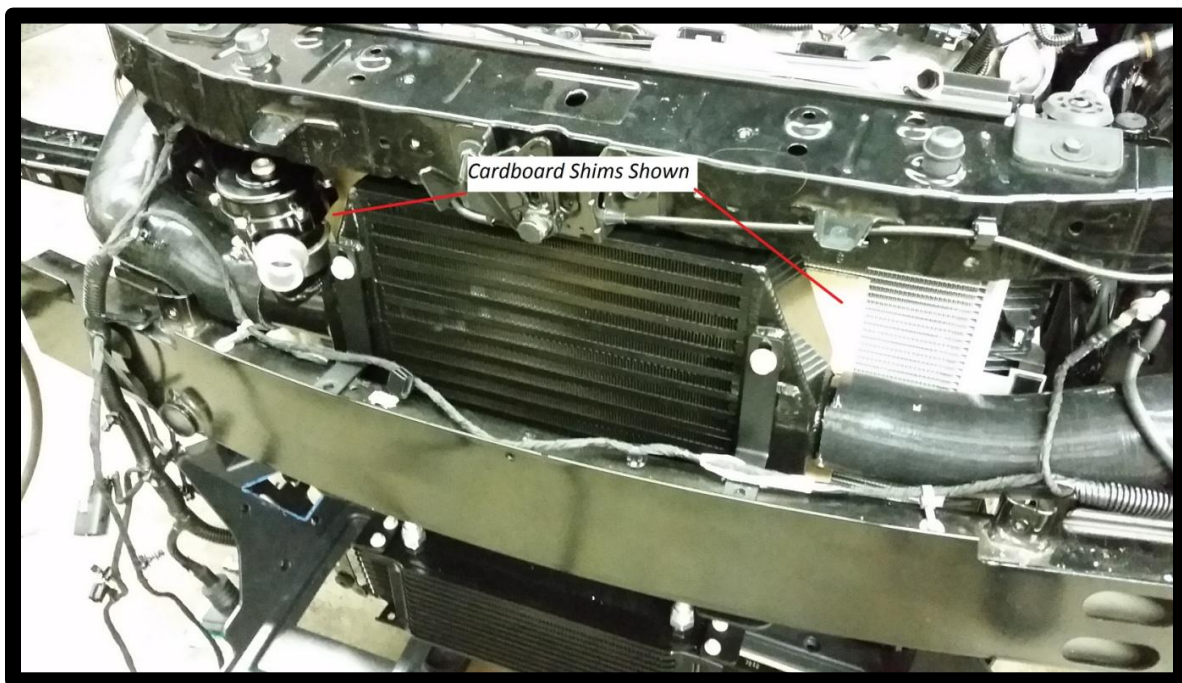

Figure 41: Shimming Intercooler from Condenser
8. Using the two strips of cardboard from the oil cooler packaging shim the intercooler away from the condenser. To do this insert the cardboard on the sides behind the intercooler as shown in Figure 41 making sure that you will be able to remove it later.